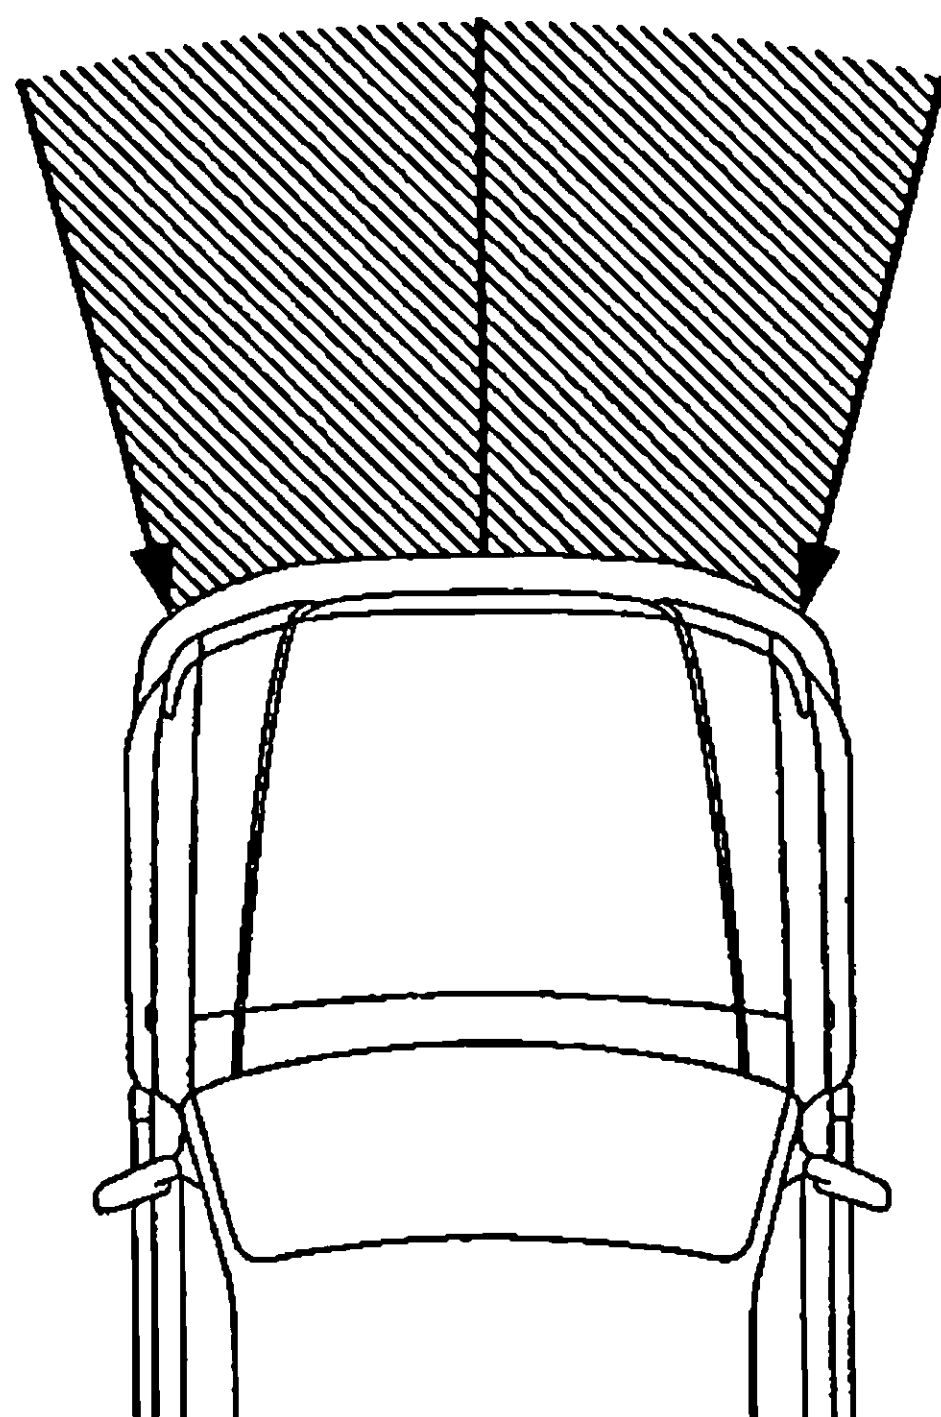

Fig. 1
- When the vehicle collides in the hatched area (Fig. 1) and the shock is larger than a predetermined level, the airbag is activated automatically. The airbag sensor is characteristically turned in such a way that it can judge the need for ignition in collisions within the hatched area.